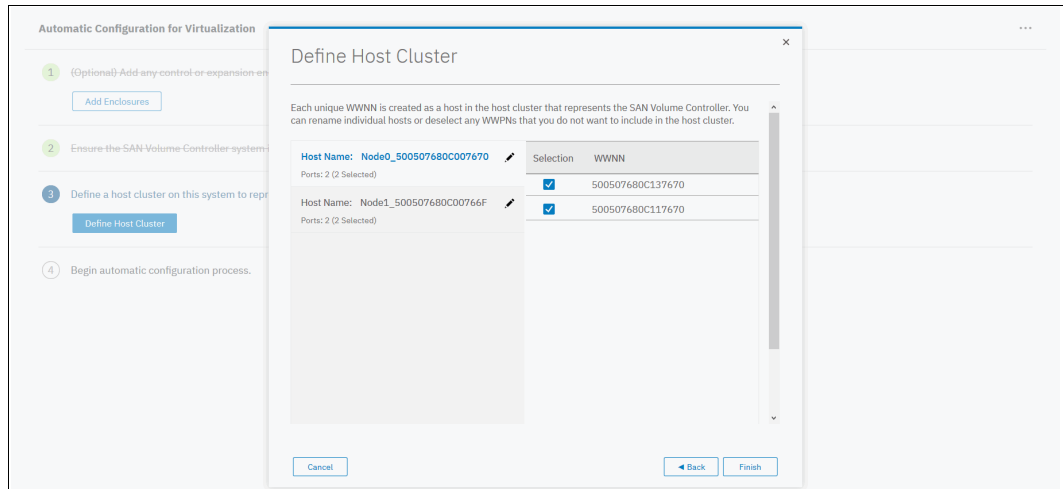

Figure 3-46 Hosts inside an IBM SAN Volume Controller host cluster
- When all nodes of an SVC cluster including the spare one are selected, you can change the host object name for each one, as shown in Figure 3-46. For convenience, name the host objects to match the SVC node names or serial numbers.